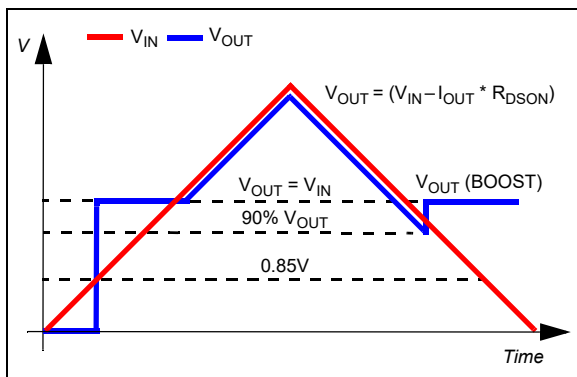

**FIGURE 5-4:** PGT Output Response.
- $V_{OUT}$  is below 90% of regulated value; there is a 5% hysteresis. It resumes when  $V_{OUT}$  gets back to 95% of its nominal value. A 250  $\mu$ s delay is needed for a valid signal (see Figure 5-4).